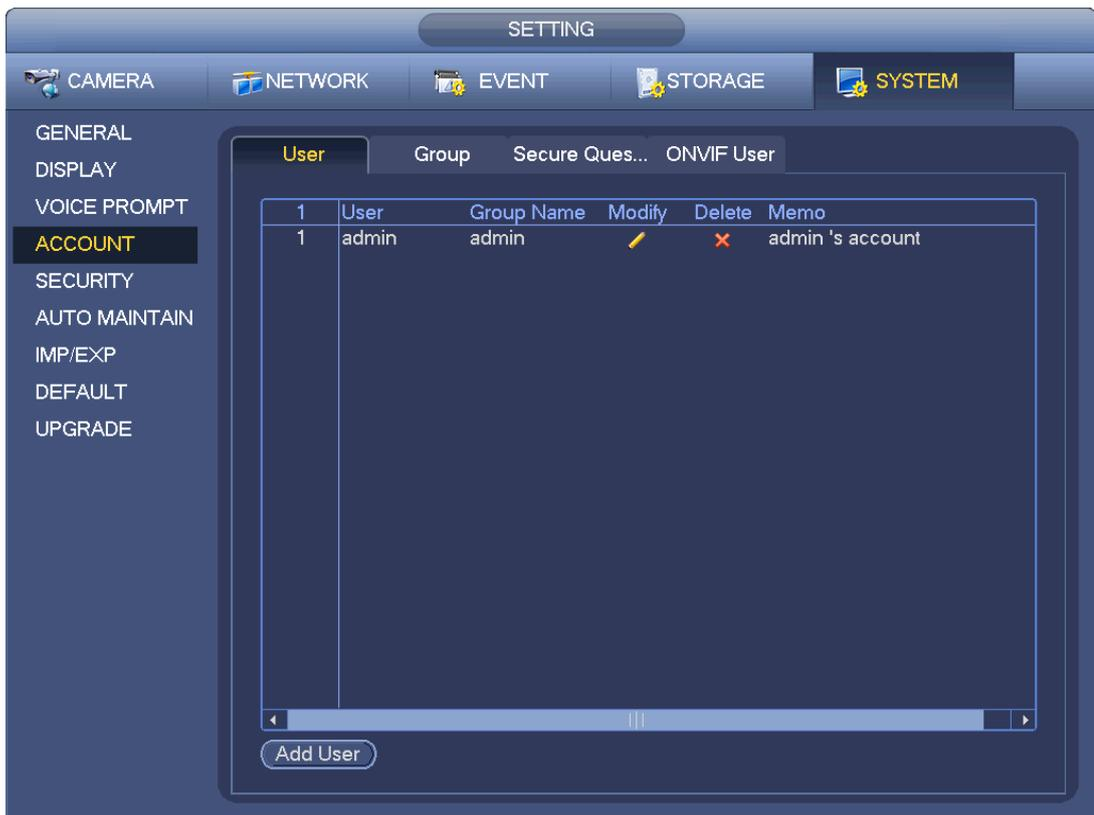

Figure 2-196
Enter user interface. See Figure 2-196.
- Step 2 Click Add user button in Figure 2-196.